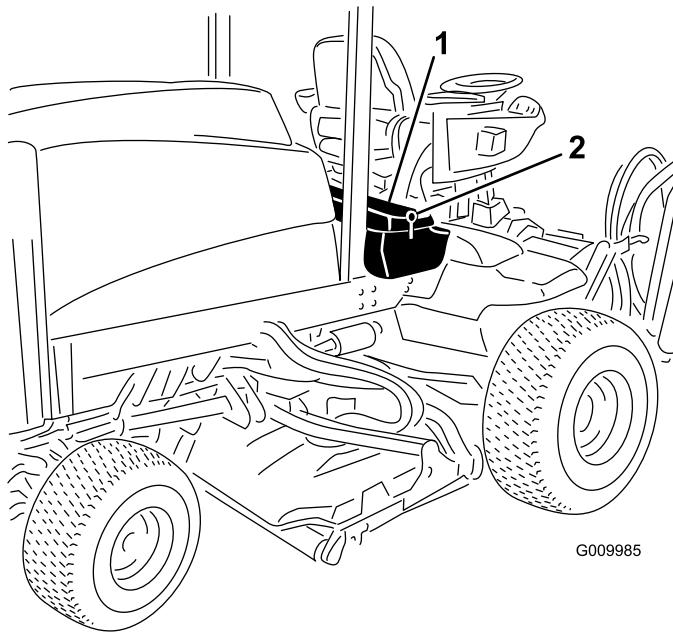

Figure 51
1. Unlatch and raise the operator's console panel (Figure 51).